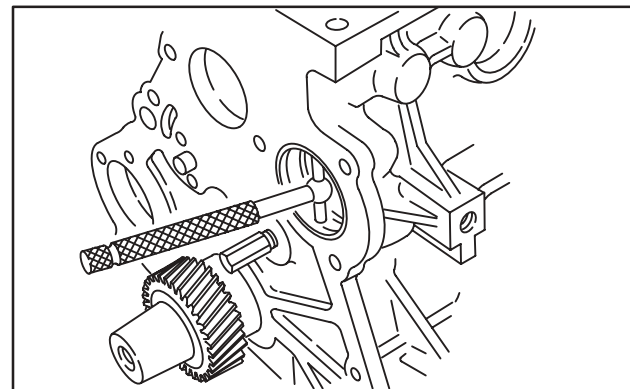

Fig. 5 – Checking Cam Bearing
6. Check camshaft bearing, Fig. 5.